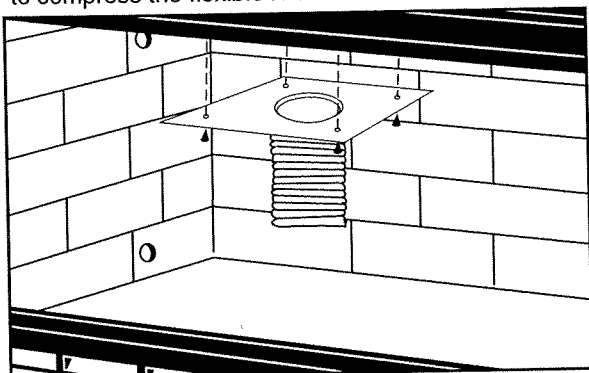

Figure 4
From the factory built fireplace adapter kit, attach the 6" flex pipe to the flue adapter collar. Place a bead of high temperature silicone on the top of the adapter collar and position the adapter collar w/flex pipe to the top of the existing fireplace firebox. Screw the adapter to the firebox top with four (4) self-tapping screws. See Figure 4.